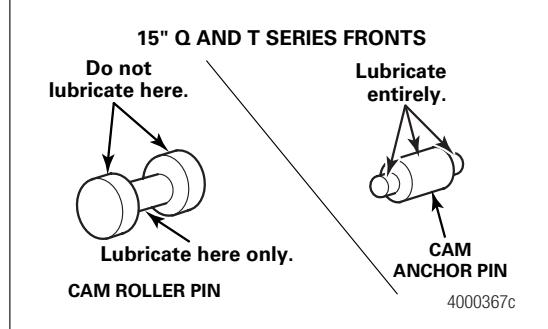

Figure 5.18
- Use Meritor specification O-617-A or O-617-B grease to lubricate the roller pin and anchor pin. Figure 5.18.
- Lubricate the roller pin and anchor pin with Meritor specification O-617-A or O-617-B grease. Figure 5.18.